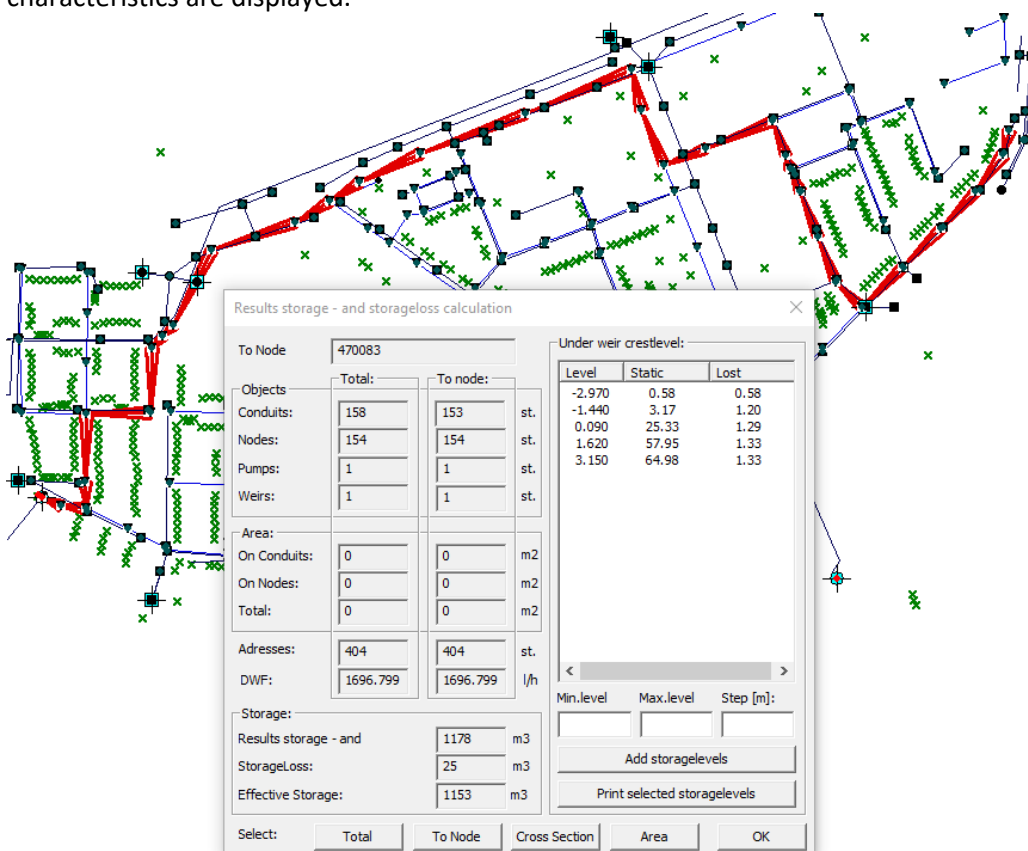

Figure 3.1.2
After starting option: **Tools -> Calculate Storage and Flow -> From node**, a user can click on a node. A dialog will appear as depicted in figure 3.1.2 the flow is displayed with arrows along the conduits from the node to the point where the water leaves the system. In the dialog the calculated storage characteristics are displayed.
The dialog depicted in figure 3.1.2 has the following buttons:
- [Add storage levels]: to perform a new storage calculation based on the levels defined in the fields above this button. In figure 3.1.2 the to be calculated storage levels begin at -2.97 m and end at a level of 3.15 m and have steps of 1.53 m. In the list the results are summarized per level. The Static column shows the drained volume below the weir crest levels and node top levels. The Lost column shows the remaining volume.